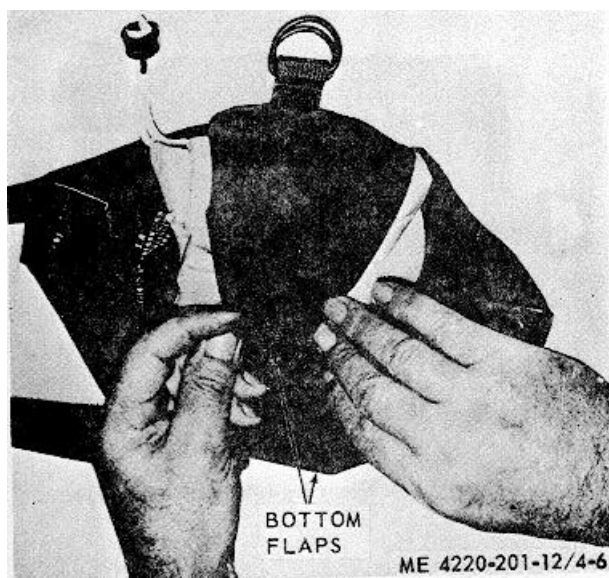
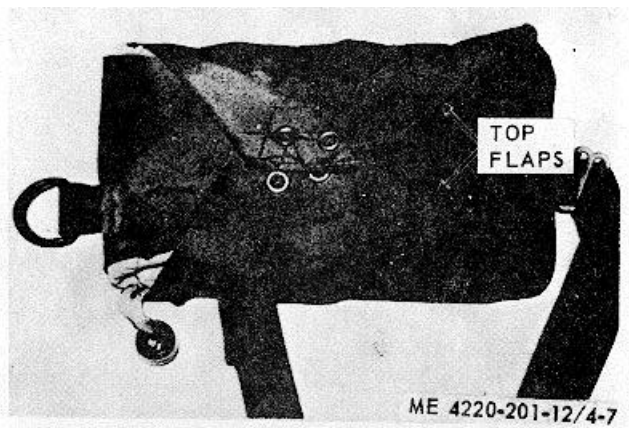

Figure 4-6. Securing container bottom f flaps
Figure 4-7. Securing container top flaps.
*i.* Close the container bottom (fig. 4-6) and top (fig. 4-7) flaps and tie with one turn of #3 cord cotton thread, using surgeon's knot and a locking knot.